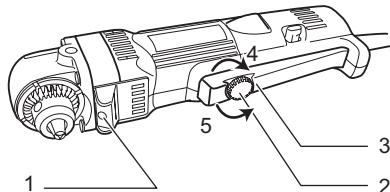

Fig.3
► Fig.3: 1. Lamp 2. Speed control screw 3. Switch lever 4. Higher 5. Lower